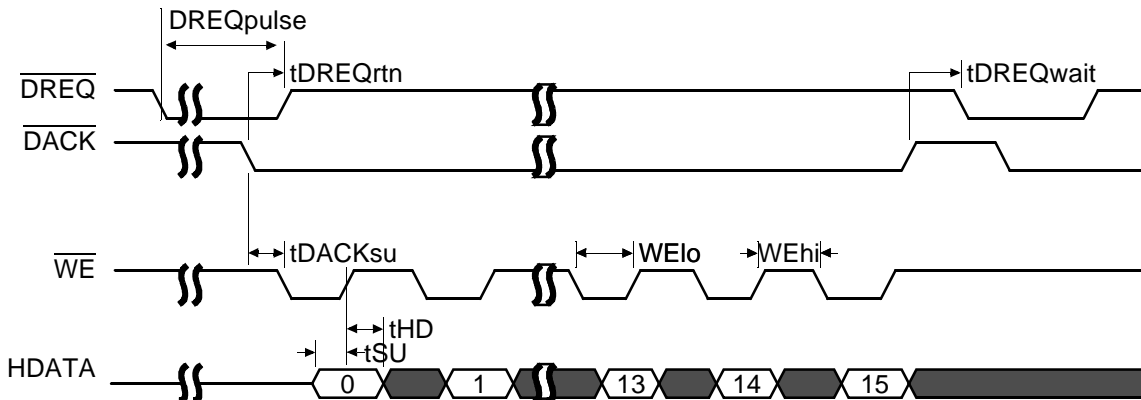

FIGURE 41. Burst Write Cycle for DREQ/DACK DMA mode for assigned DMA channel EDMODx<14:11> NOT programmed to a value of 0.
* DREQ/ pulse width is programmable. Refer to table 21 and figures 41 and 42.
* DREQ/ pulse width is programmable. Refer to table 22 and figures 41 and 42.